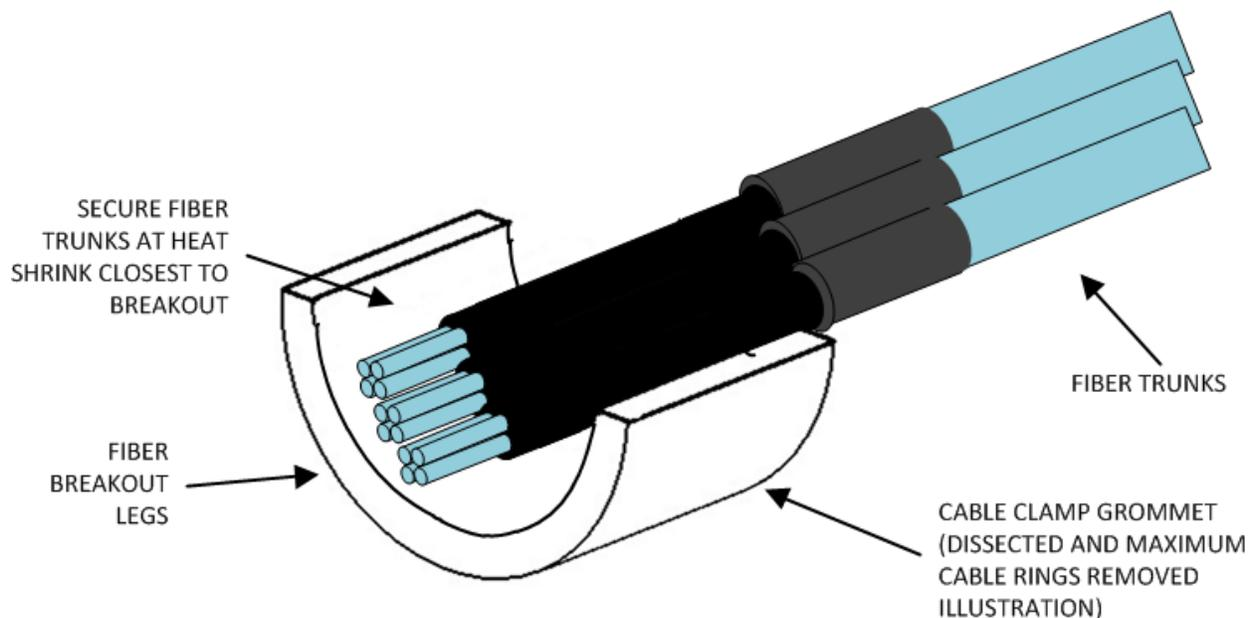

Figure 21
- a. Secure each trunk at the heat shrink as shown in Figure 21.